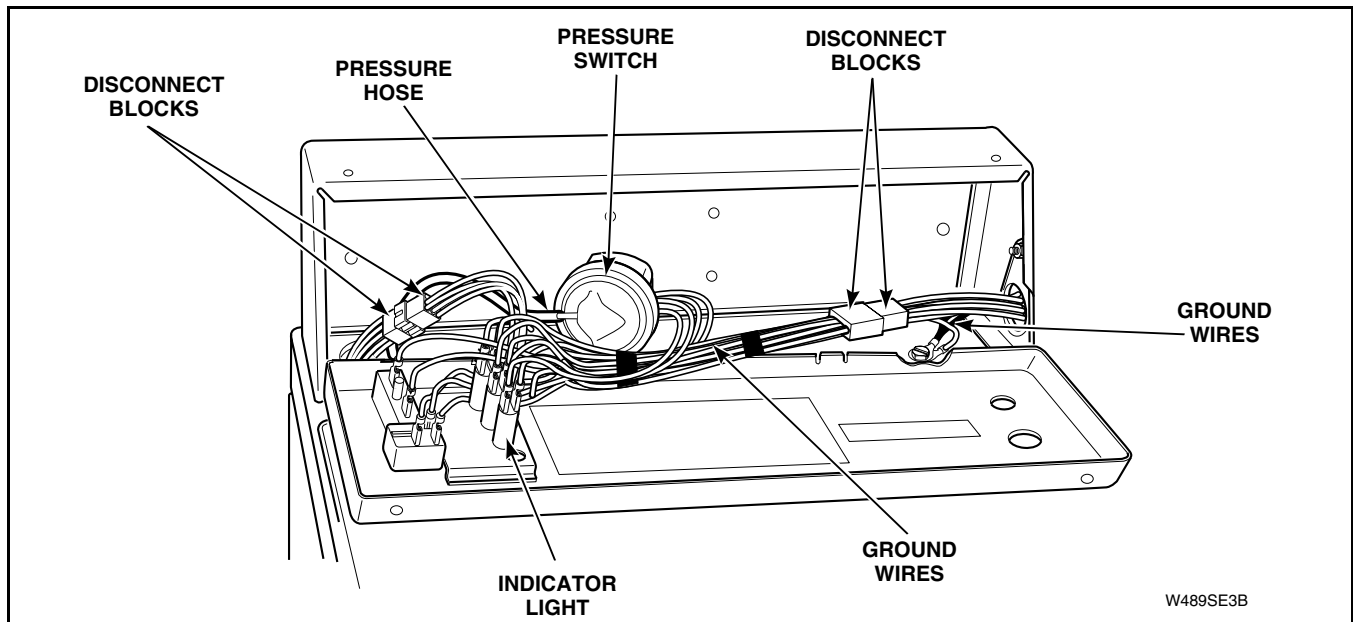

Figure 6
- (2) Unplug wire harness quick disconnect blocks, two ground wires and leads from pressure switch and loading door switch. Refer to *Figure 6*.
(In Use, Rinse or Spin. Refer to *Figure 6*):
- (2) Remove two screws holding switch to cabinet top. Refer to *Figure 6*.
- (3) Pull switch out of control hood far enough to disconnect pressure hose and wires from switch.